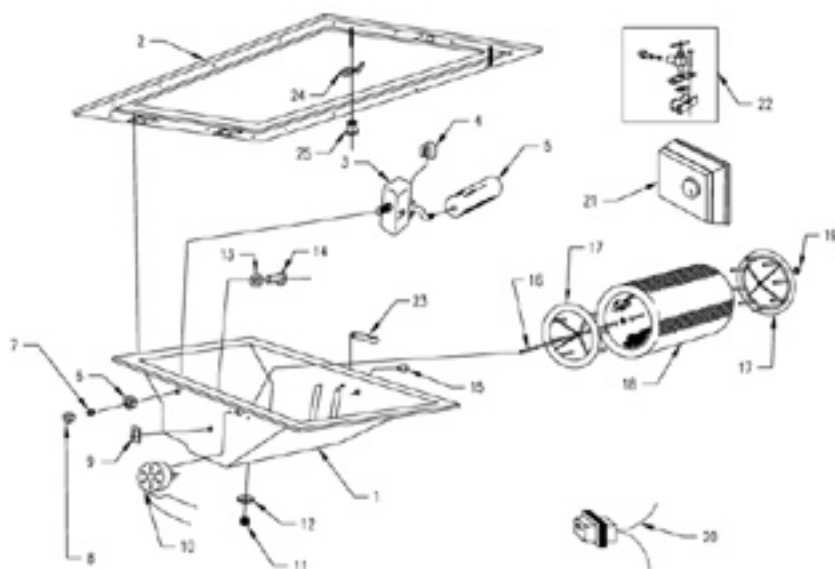

FIGURE 19: Model 86 Parts
3. Remove the evaporator pad from the drum by squeezing the finger prongs on the clip, holding the drum end in place and pulling. (See Figure 19, page 20.)